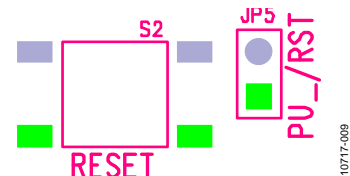

Figure 9. RESET Switch and Power-Down Jumper
The ADAU1962/ADAU1966 evaluation board has provision for resetting and powering down the ADAU1962/ADAU1966. S2 on the evaluation board, shown in Figure 9, is a momentary reset switch that pulls the master reset (MR) line low; this line controls the reset generator U10. MR is also connected to the USBi and SDP INTF connectors through steering diodes and protection resistors so that outside devices can control the reset state of the evaluation board, as shown in Figure 26. The power down jumper, JP5, allows the MR line to be tied low. The output of the reset generator drives the PU\_/RST line.